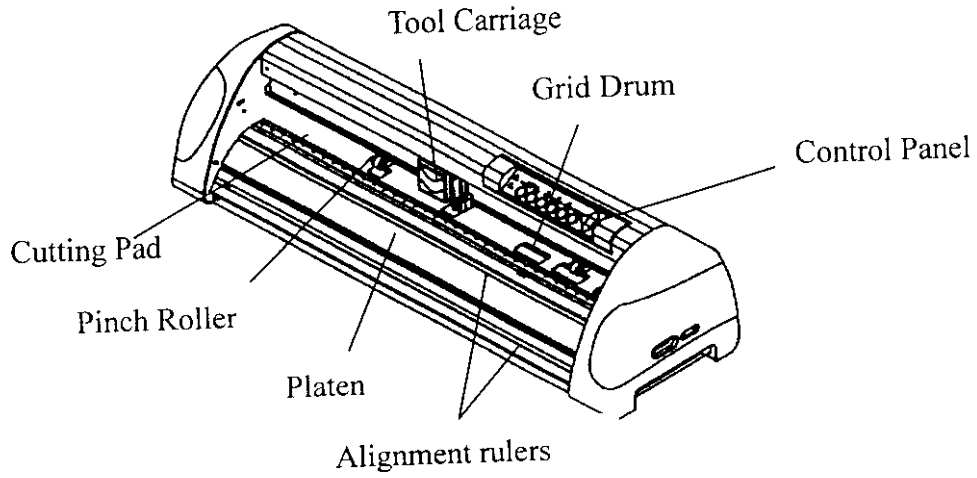

Figure 1-1
1.2 Front View of Lynx (Figure 1-1)